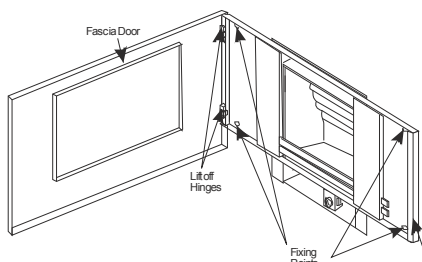

Figure 61
2. Separate the door from the mounting frame by opening and lifting the door off of the two-part hinges as indicated in **Figure 61**. Set the door carefully aside.